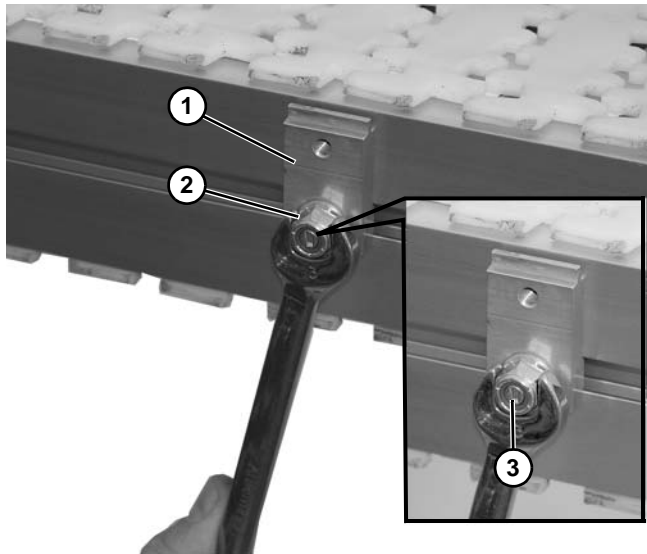

Figure 59
3. Fasten retaining clip (**Figure 59, item 1**) to conveyor with nut (**Figure 59, item 2**) on stud.
*Be certain that slot (**Figure 59, item 3**) is close to vertical when finished tightening nut.*
4. Tighten nuts (**Figure 59, item 2**).